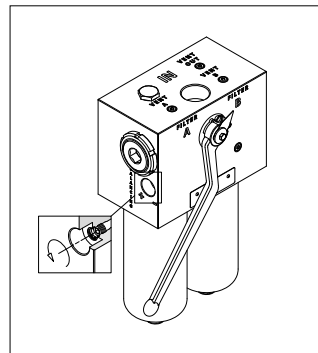

fig. 2
- (Fig. 2) Open the balancing valve by unscrewing it towards the “-“ sign